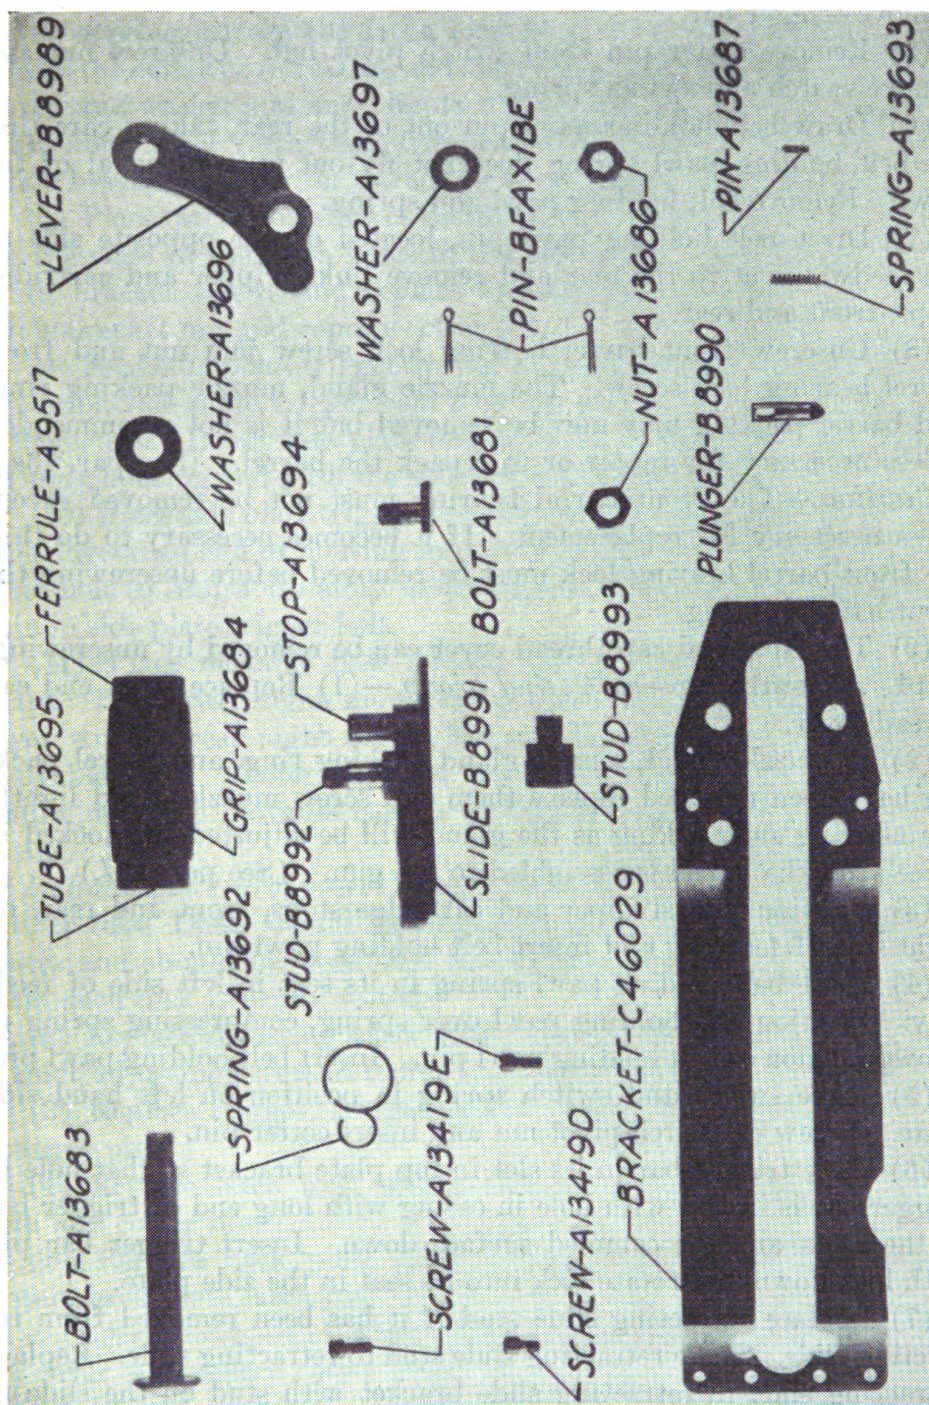

FIGURE 20.—Retracting slide group.
(3) To remove retracting slide assembly from casing, pull out locking wires and unscrew retracting slide bracket screws. The components of the retracting slide assembly are shown in figure 20. To disassemble—